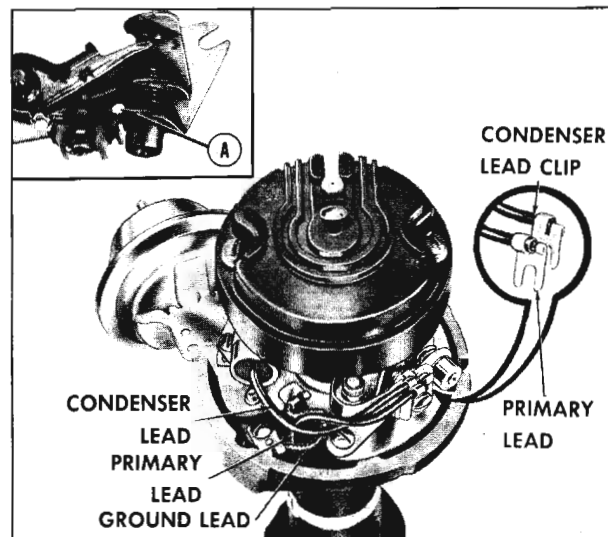

Fig. 14-47 Installing Contact Point Set
3. Upon reassembly, make sure that hole "A" in the contact set is centered over the dowel on the distributor plate and install the primary leads as shown in Fig. 14-47. Leads must be properly located to eliminate lead interference between cap, weight base, and breaker advance plate.